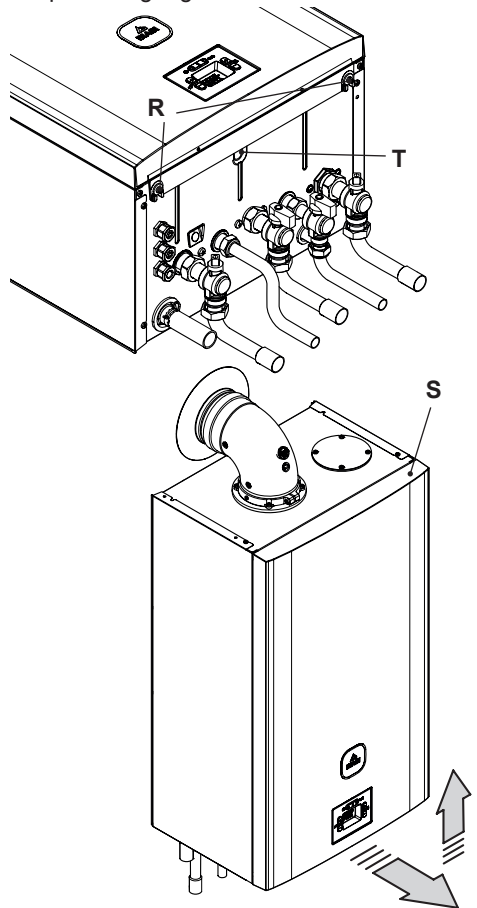
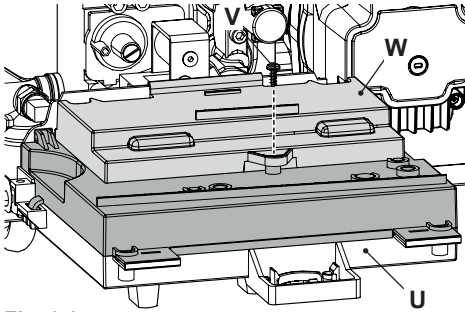

Fig. 6.14
Fig. 6.15
- Unscrew screws "R" and remove the front panel "S" by pulling it and pushing it towards the top so that it is freed from the top housing Fig. 6.14.
- Unscrew the screw "T" (Fig. 6.14) and turn the control panel "U", as shown in Fig. 6.15.
- Unscrew the screw "V" and lift the cover "W" to release the cables from the cable gland (Fig. 6.15).